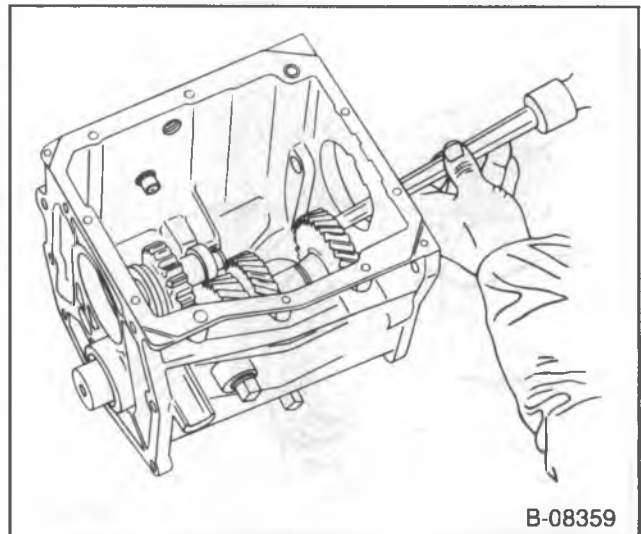

Figure 15—Removing the Countergear Rear Bearing
- 19. Snap ring and the countergear rear bearing spacer (634).
- 20. Countergear rear bearing (635).
- Drive the countergear (640) to the rear to remove the bearing (figure 15).